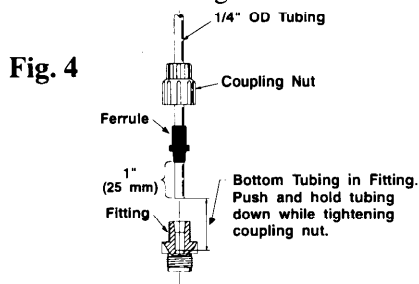

Fig. 4
14. Connect the discharge tubing to the injection check valve. (see Fig. 4)